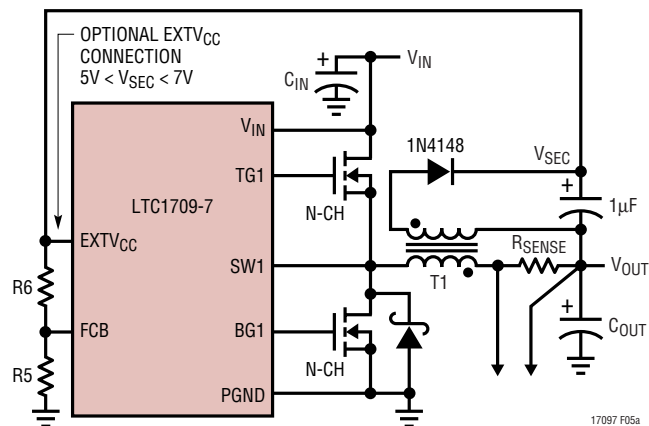
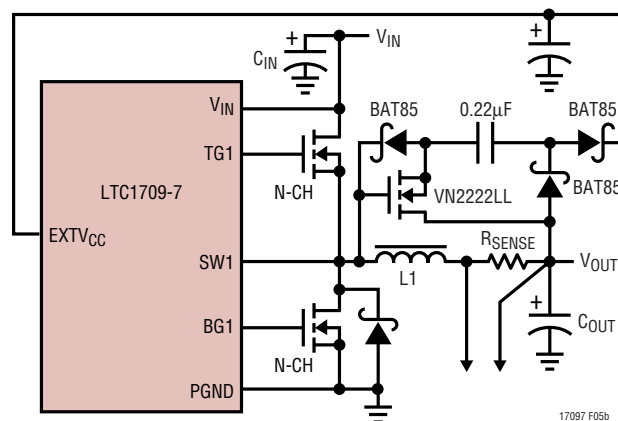

Figure 5a. Secondary Output Loop with EXTV_{CC} Connection
Figure 5b. Capacitive Charge Pump for EXTV_{CC}
4. EXTV_{CC} connected to an output-derived boost network. For 3.3V and other low voltage regulators, efficiency gains can still be realized by connecting EXTV_{CC} to an output-derived voltage which has been boosted to greater than 4.7V but less than 7V. This can be done with either the inductive boost winding as shown in Figure 5a or the capacitive charge pump shown in Figure 5b. The charge pump has the advantage of simple magnetics.
The secondary output voltage V_{SEC} is normally set as shown in Figure 5a by the turns ratio N of the transformer: